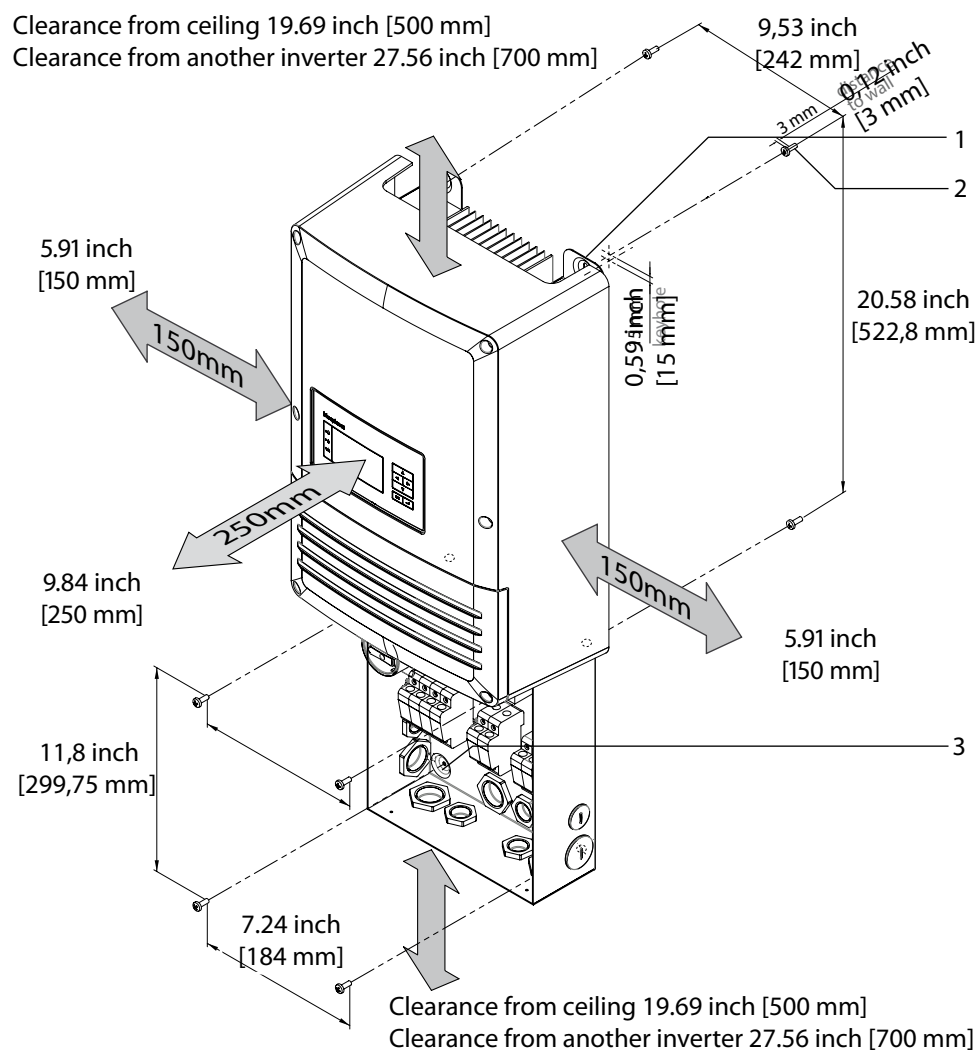
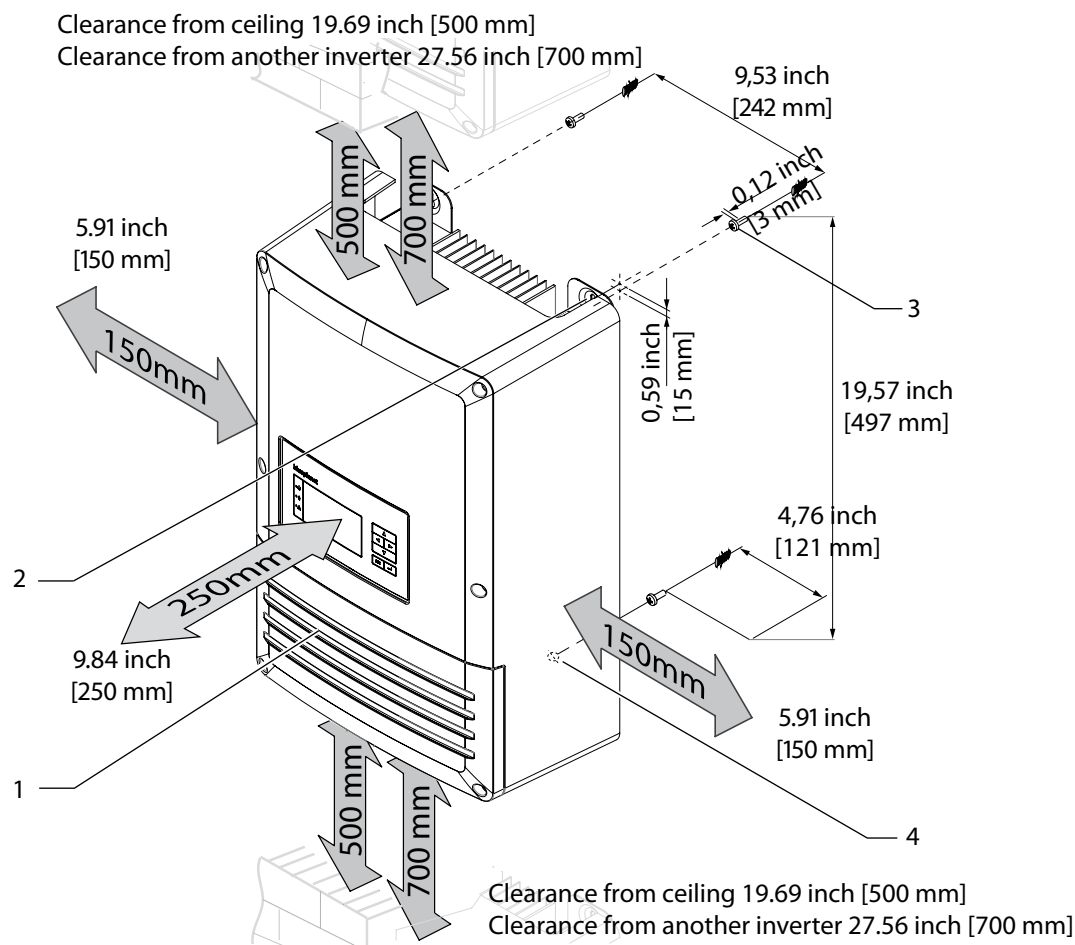

Figure 9: Minimum clearances/Mounting holes
Figure 10: Minimum clearances/mounting plate for inverter without PSD
- Minimum clearance during installation: see Figure 9 on page 17 and Figure 10 on page 18.